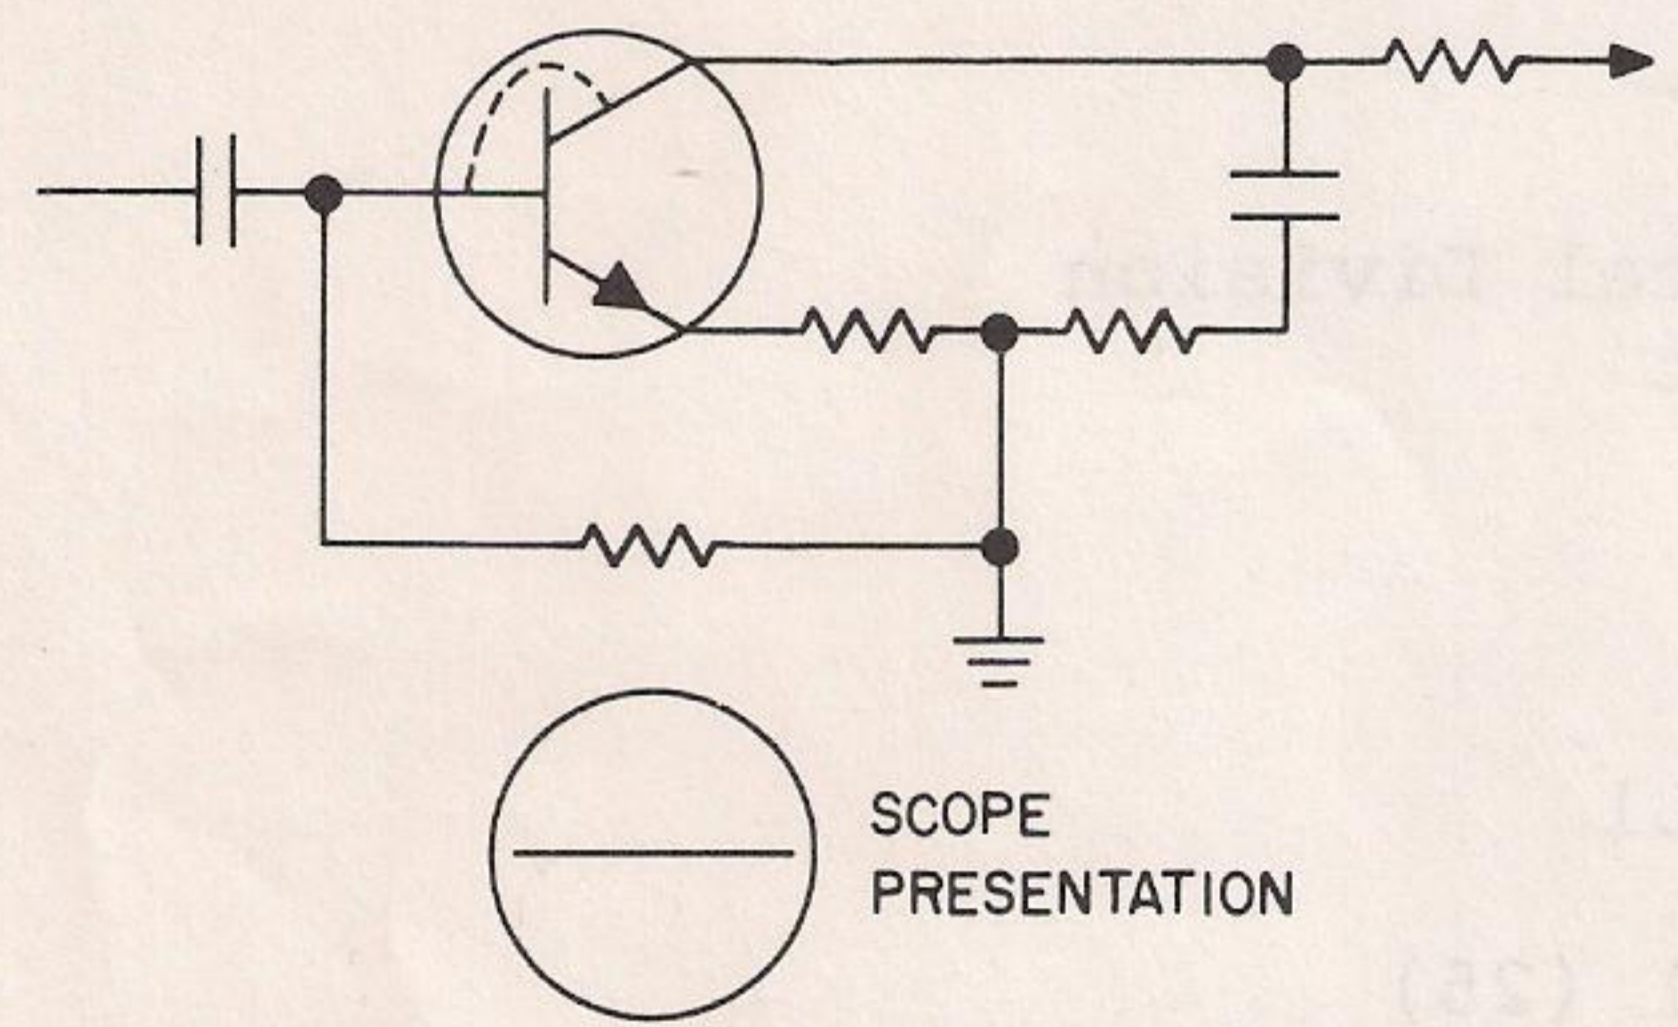

Figure 8. Transistor Check-Base to Collector
(2) If the transistor pictured in figure 8 contained an electrical short between the base and the collector, the display shown would result during testing from the base to the collector.
(3) To distinguish NPN from PNP transistors, move the red probe to the transistor base and the black (grounded) lead to either the emitter or collector. If the step pattern opens downward, the transistor is NPN (emitter arrow pointing downward); if the pattern opens upward, the transistor is PNP (emitter arrow pointing upward). The same technique can also be used to determine diode direction.